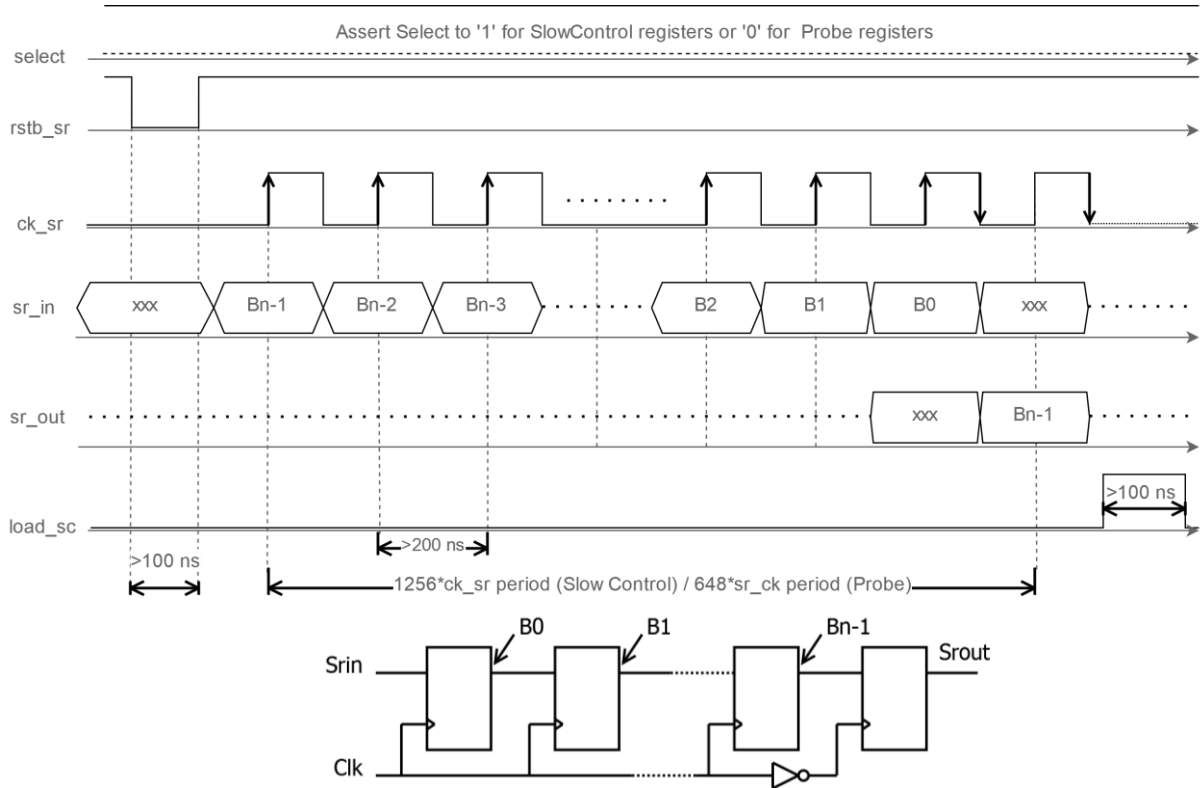

Figure 26 - Slow Control and Probe timing diagram and explanation.
The Slow Control is a shift register composed of n flip flops ($n = 1256$ flip flops in Triroc, first bit is $B_0 = EN_TRIG_MUX$ and last is $B_{1255} = cmd/cmdb_inpdac<63>$). Data are stored in flip flops on leading edge of the clock. The data are shifted at each clock cycle as seen on Figure 26. Between sr_out and the output of the last Slow Control register's flip flop, there is another flip flop clocked on clk_sr falling edge so an additional falling edge is needed to send the data out on sr_out pin. Although most of the parameters are effective once the correct bits are shifted in, some parameters require external signal for loading the new parameters. The pin is known as $load_sc$ in Triroc.
- sr_out : B23 → shift register output, on falling ck_sr falling edge (Srout in Figure 26).
- sr_in : A23 → shift register input (Srin in Figure 26).
- $rstb_sr$: A22 → shift register reset('0') -> The reset, default values are loaded into the ASIC, rendering the ASIC operable. (Rstb in Figure 26).
- ck_sr : B22 → shift register clock (<10MHz). (Clk in Figure 26).